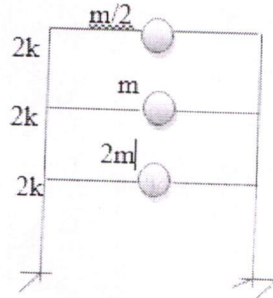

Fig.2
9. A). The line diagram of multi-storeyed building as shown in Fig. 2. Obtain the frequencies and modes of vibration using Stodola method. Given $m = 4 \times 10^4$ kg and $k = 5 \times 10^4$ kN/cm 10M